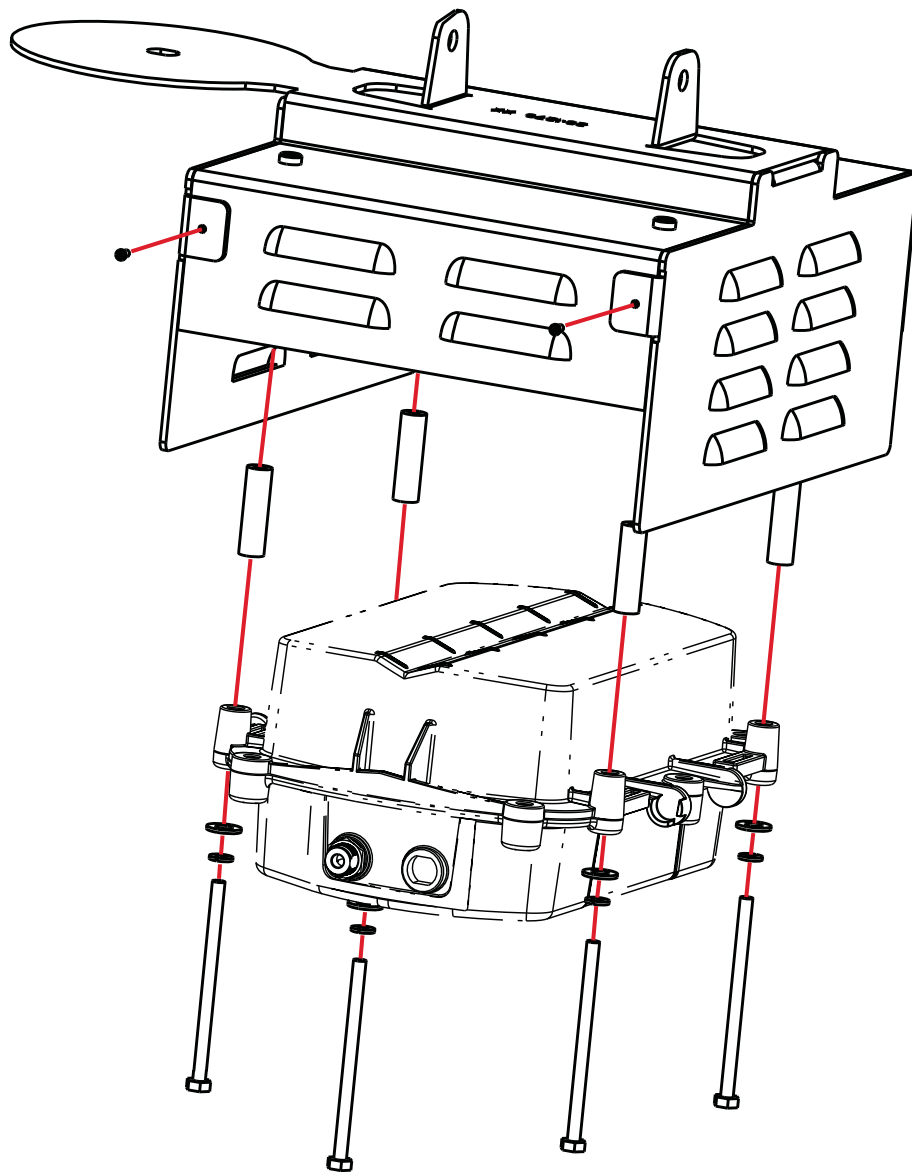

Figure 3 - 9. Attach to Streetlight Enclosure
1. Attach the C6400-Series Collector to the streetlight enclosure using the bolts, spacers, washers and lock washers included in the kit. Figure 3 - 9
2. Insert two screws into the front of the bracket and torque to 8 +/- 2.0 in. lbs. Figure 3 - 9
3. Attach streetlight bracket to streetlight arm or optional wood pole mounting bracket using V-bolts, washers, lock washers and nuts provided in the kit. Figure 3 - 10.